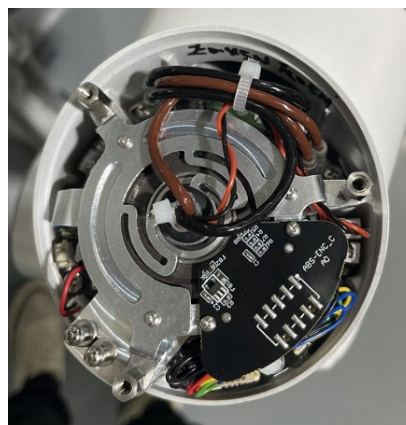

Figure 3-14 Reconnect the wires
- Reconnect the wires and tie them as shown in Figure 3-14: